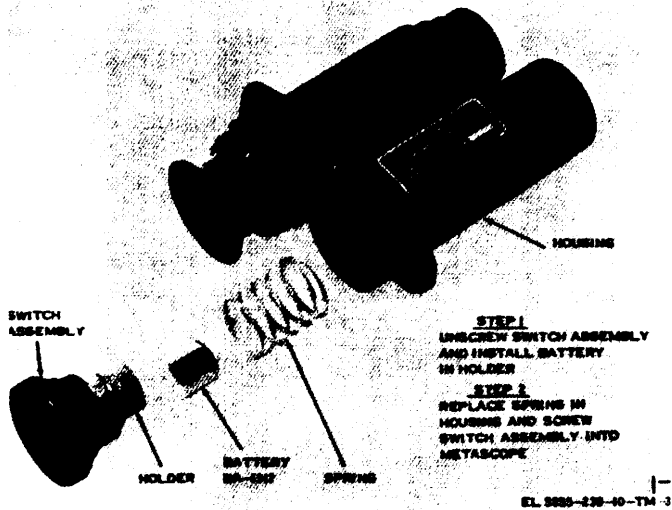

Figure 2-2. Battery BA-1312 installation.
*c. Metascope.* If the metascope image tube presentation is weak, blurred, or not illuminated; replace the battery (fig. 2-2).